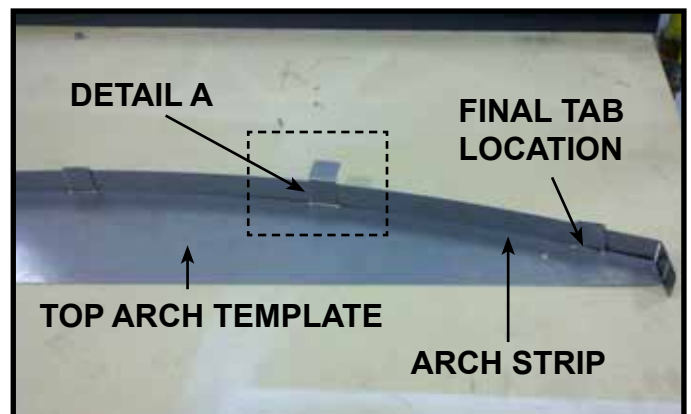

Figure 7. Bend Tabs
8. Bend the five tabs out to 90 degrees and then form them around the arch strip. See Detail A in Figure 7. This will make a uniform arch. See Figure 5 for completed hand bend.